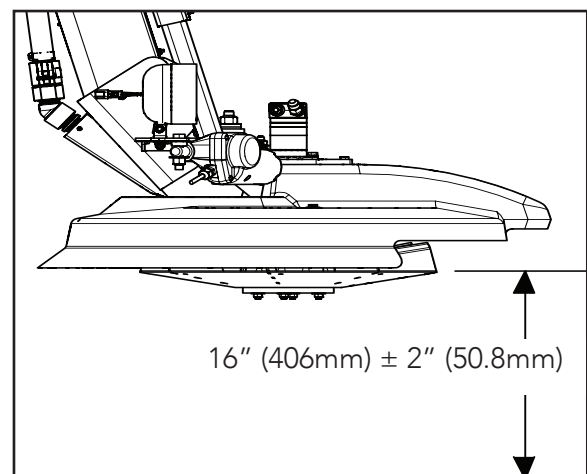

Figure 4
- a. Figure 4 - Measure distance from outer edge of spinner disc to ground. Distance between disc and road surface must be $16'' \pm 2''$ (356-457mm). Note difference between required and actual height of disc.